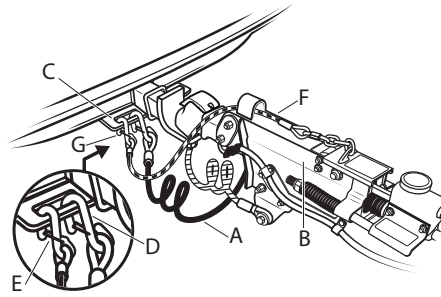

Figure 10
The right cable (A) crosses underneath the trailer tongue (B) and hooks to the left side of the tow vehicle permanent hitch (C), "D"-rings, frame or structure, or to the tow vehicle bumper brackets. (Figure 10) Do not attach cables to the ball or to a ball mount that is removable. The left cable hooks to the right side in the same manner. Crossing the cables under the tongue allows the minimum amount of slack for turning. The "S"-hooks (D) on safety CABLES should be hooked to attachment holes on the hitch, if present. For safety CHAINS the "S"-hooks can be hooked to the attachment holes or passed through these holes and hooked back to a link in the chain. Control safety CHAIN slack by hooking the chain back to itself or by twisting the links to shorten chain. Be sure the "S"-hooks have a functional spring clip retainer (E), or are secured with a rubber retainer. *The cables need slack to allow your vehicle to make turns. Make sure these cables attach securely to your tow vehicle and do not drag on the roadway.*
Trailers with brakes have a third cable, called the emergency brake cable (F). (Figures 10 and 11) This cable applies the brakes automatically in the unlikely event of a separation of the trailer from the tow vehicle. Attach this cable as close to the vehicle center as possible; to the tow vehicle permanent hitch (C), "D"-rings, frame or structure, or to the bumper brackets. The "S"-hook (G) on this cable should be hooked to an attachment hole on the hitch, if present. Be sure the "S"-hook has a functional spring clip retainer, or is secured with a rubber retainer.